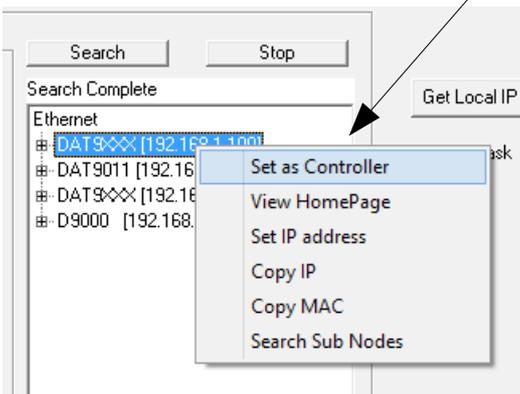

Fig 1.3: Select controller
- Choose **“Set as Controller”** to connect device; (Fig. 1.3)